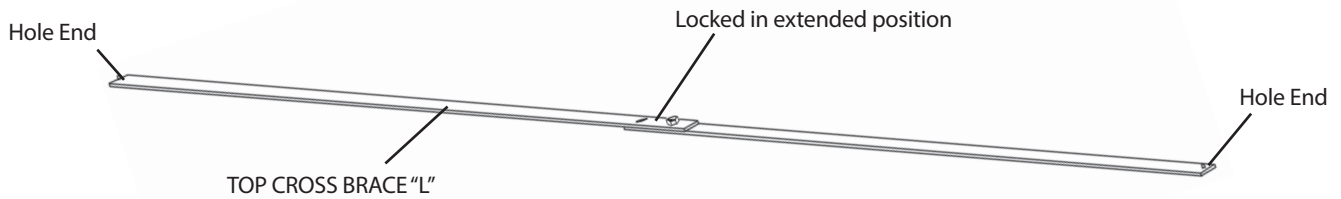

Figure 28.1
STEP 20: Locate the (4) TOP CROSS BRACES "L". Begin by unfolding the (4) TOP CROSS BRACES "L" and locking them in their extended position, as illustrated in Figure 28.1.